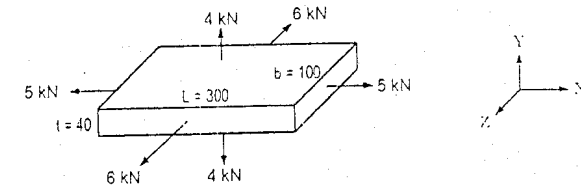

Figure.1
b) A metallic bar $300 \text{ mm} \times 100 \text{ mm} \times 40 \text{ mm}$ is subjected to external forces as shown in fig. 1. Determine change in volume of the block. Take $E = 2 \times 10^5 \text{ N/mm}^2$, $\mu = 0.25$. 6 Marks